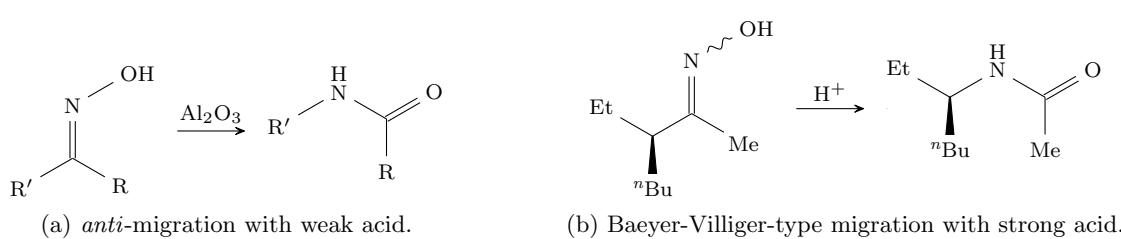

Figure 6.27: Beckmann rearrangement selectivity.
- Regioselectivity in the Beckmann rearrangement (Figure 6.27).